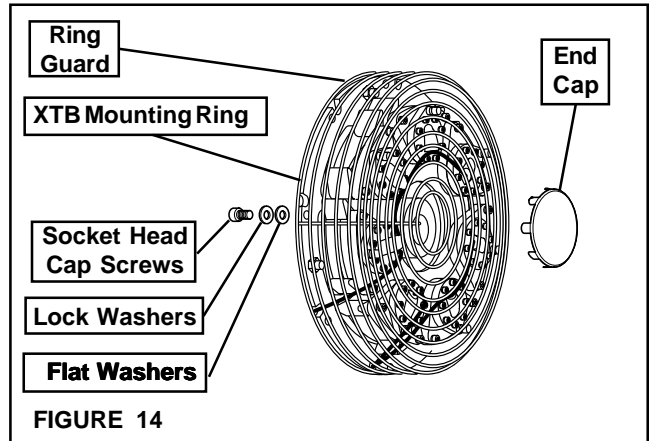

FIGURE 14
- Slide the Ring Guard over the XTB Caliper Brake Assembly by aligning the Ring Guard attachment hook ends with the notches in the XTB Mounting Ring; then, turn the Ring Guard to the closest attachment hole (See Figure 14).
- Secure the Ring Guard to the Mounting Ring of the XTB Caliper Brake Assembly using the eight Socket Head Cap Screws, Lock Washers, and Flat Washers provided with the Ring Guard (See Figure 14).
- If the Ring Guard is shipped with an End Cap, slide the End Cap onto the Ring Guard; then, secure it in place by bending the tabs on the End Cap around the Ring Guard (See Figure 14).